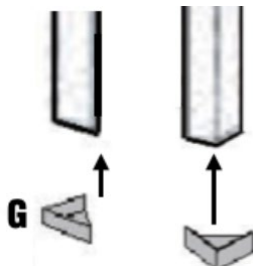

Fig. 2
3. Place 4 of the feet (G) on the bottom of the 4 vertical supports (Fig. 2).